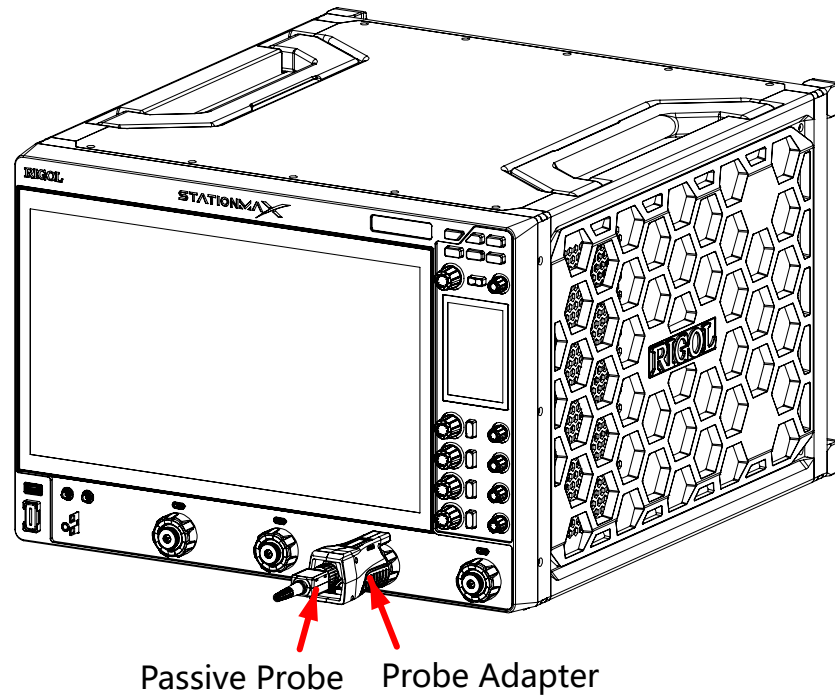

Figure 5.2 To Connect the Passive Probe
1. Connect the BNC terminal of the probe to an analog channel input terminal on the front panel of the oscilloscope, as shown in Figure 5.2.